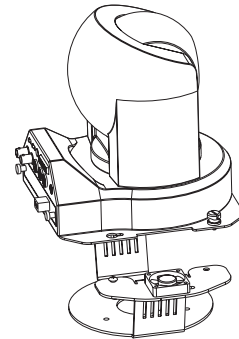

Figure 5
- 2 Place the Sony BRC300 pan/tilt and quick release bracket in the housing, sliding the three open screw slots over the screws in the housing. Slide the bracket forward, then tighten the captive screw on the bracket (Figures 5, 6, and 7).